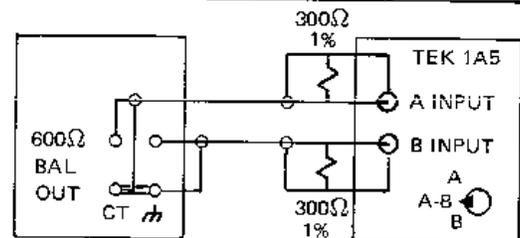

Figure 2-1. Test Set-up for 600Ω BAL
13. Connect the 600Ω balanced output connectors to a differential input oscilloscope (Tektronix 1A5 plug-in or equivalent) as shown in Figure 2-1.
When in the 600Ω balanced mode, the SYNC OUT connector must not be connected directly to an oscilloscope since the BNC shells are connected to one of the balanced output signals. Connecting directly to the scope without isolating with a pulse transformer will cause attenuator B (see Figure 2-1) to be shorted, thus, one-half of the output impedance (300Ω) will be lost. The amplitude will remain the same, but the result is a 300Ω single ended output.